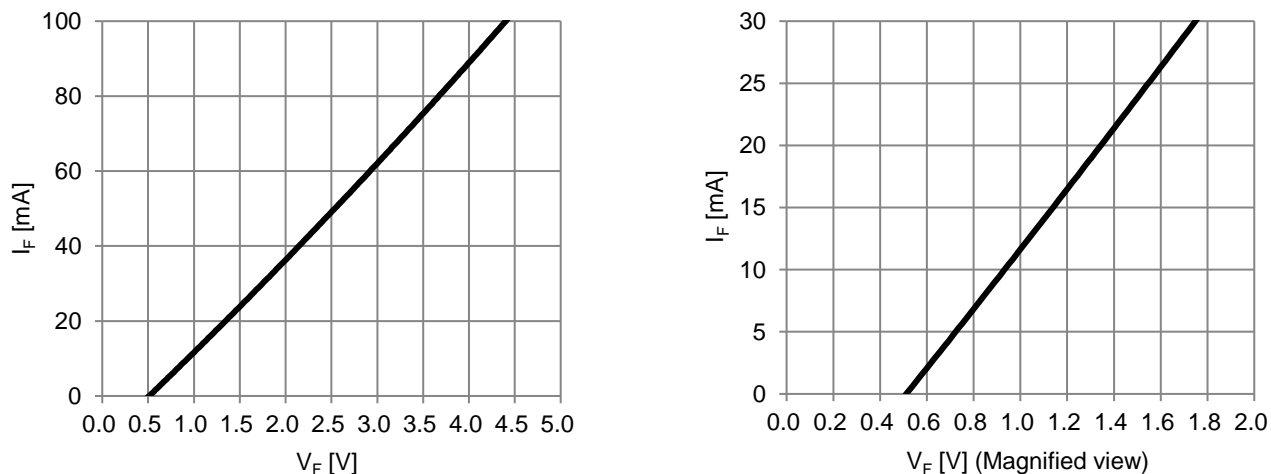

Figure 2. Built-in Bootstrap Diode V_F-I_F Characteristic (T_c=25°C)
- The characteristics of bootstrap diodes are shown in Figure 2.